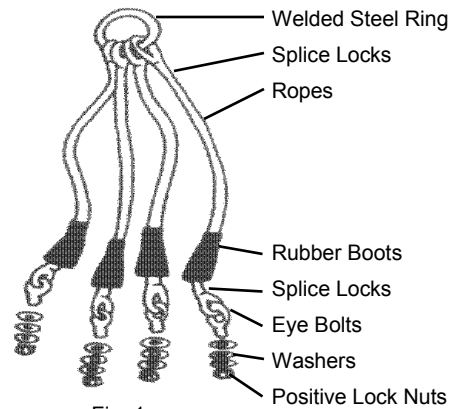

Fig. 1
- 1 - Welded steel ring with 4 rope assemblies with attached eye bolts and rubber boots as shown in fig. 1.
1. Check parts (see fig. 1) and materials list.